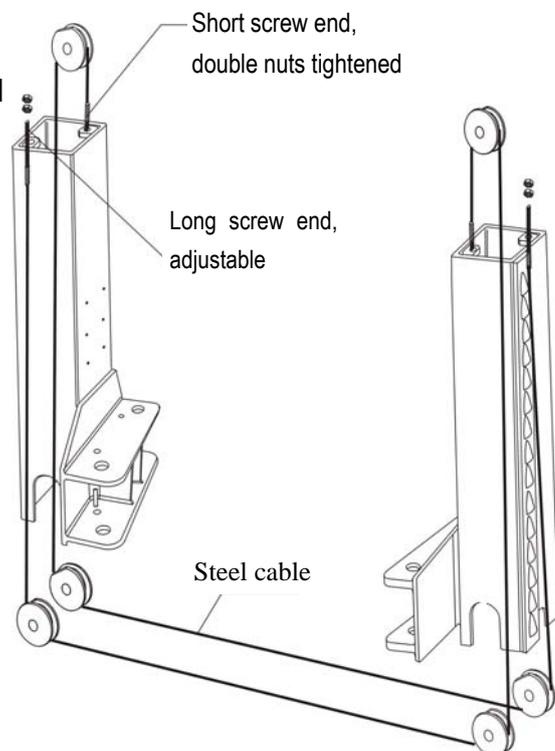

Fig.10
- Raise the two carriages to the safety locking position; make sure the two carriages are of the same height from ground. For DM9BP models, route the steel cables as Fig.10 shows.